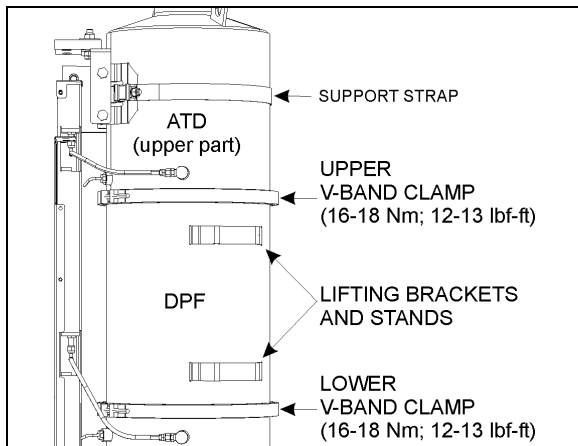

FIGURE 8: DPF REMOVAL 04019
3. Using a straightedge, adjust the diffuser assembly level. The top surface of the tag fixed on the diffuser grille must be flush with the roof surface (fig.8). It may exceed about 1/4in (6mm). Place the straightedge as shown on figure 8.